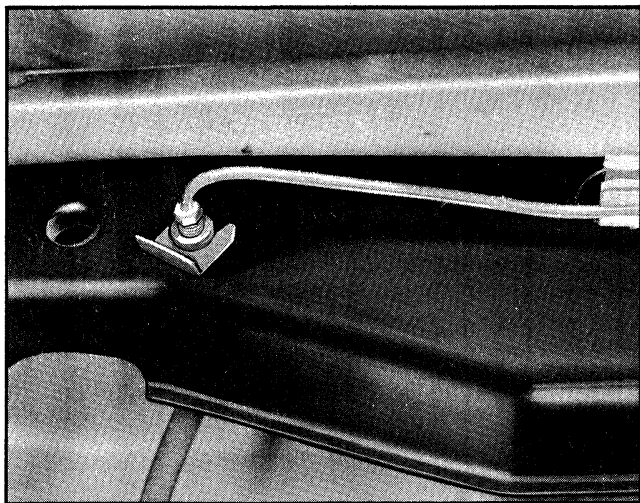

Fig. 3-26 Brake Tube and Line
4. Disconnect brake line at cross member (Fig. 3-26).